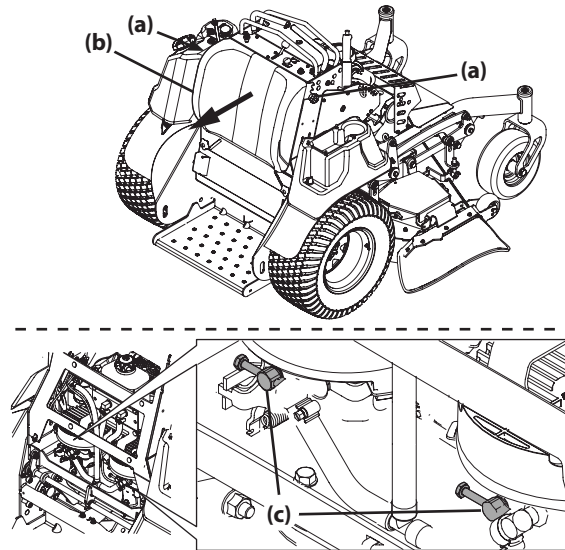

Figure 18
1. Loosen the two star knobs (a) securing the leg pad (b) to the mower (Figure 18).